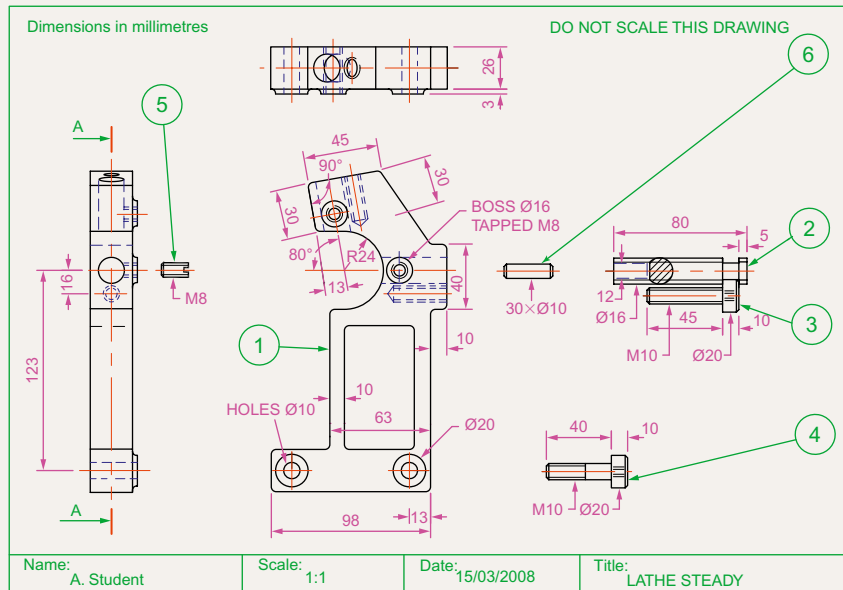

Fig. 17.43 Exercise 7 – details
- An orthographic projection of the parts of a lathe steady is given in Fig. 17.43. From the dimensions shown in the drawing, construct an assembled 3D model of the lathe steady.